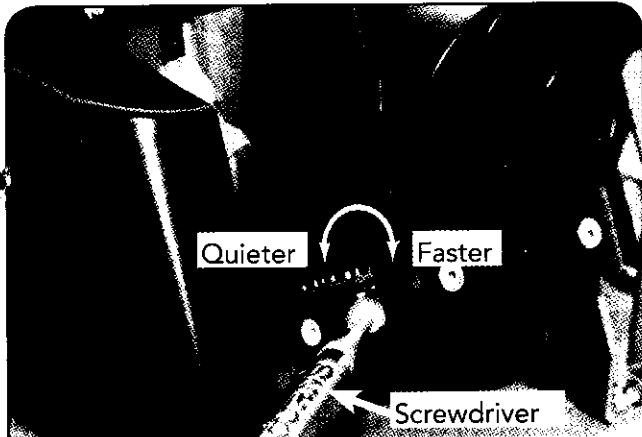

FIGURE 2 - ADJUSTING SOUND & SPEED
6. **Adjusting Sound & Speed** - The dryer is shipped set at maximum speed. Using a small flat blade screwdriver, **CAREFULLY** turn the **SPEED** pot **COUNTERCLOCKWISE 3/4 TURN MAX.** to **REDUCE SOUND & SPEED.** **CAREFULLY** turn **CLOCKWISE** to **INCREASE SOUND & SPEED.** See Figure 2.